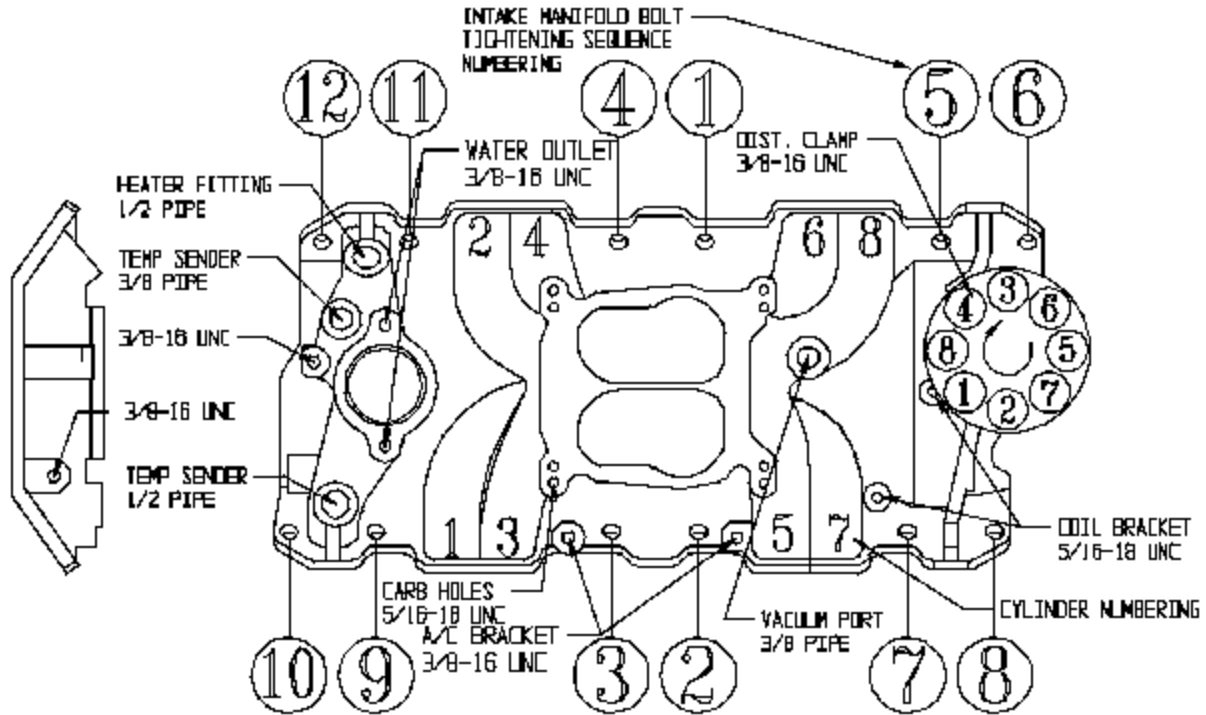

Figure 1 - Intake Manifold Bolt Tightening Sequence
- 5) Install the intake manifold and hold-down bolts (we offer an intake manifold bolt kit PN 8504 that includes small head silver Cadmium plated bolts and matching hardened washers). Apply a small amount of silicone to the threads of the eight inner bolts (1,2,3,4,5,7,9 & 11 in Fig 1) to prevent oil weepage, as generally these are not blind holes in the cylinder head. Torque all of the manifold bolts in two steps by the sequence shown in Figure 1 to 25 ft/lbs.